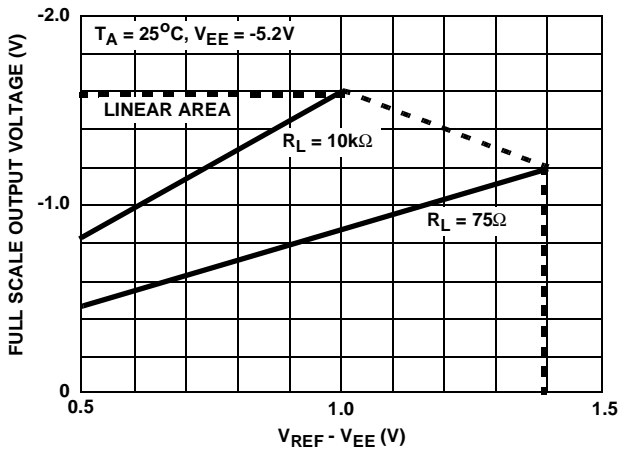

FIGURE 2.  $V_{O(FS)}$  RATIO vs  $(V_{REF} - V_{EE})$
The full scale output voltage is set by the Voltage Reference pin (27). The output voltage performance will vary as shown in Figure 2.